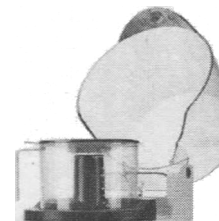

Fig.6.3.3
6.3.3 Put in the knife (Fig. 6.3.3)